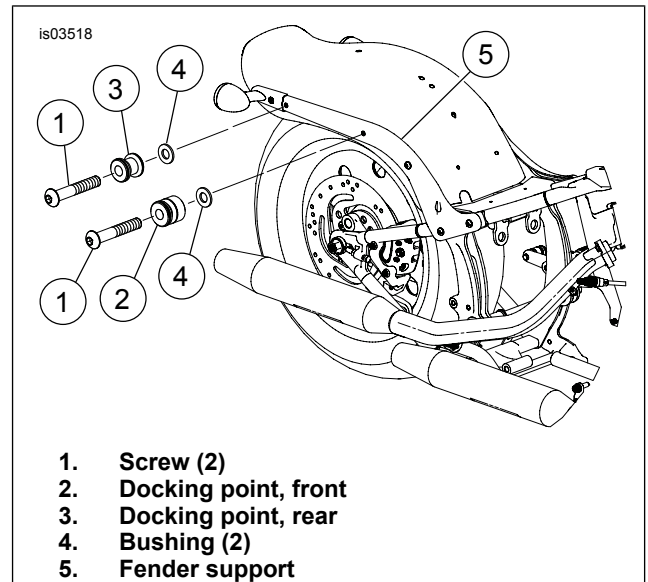

Figure 1. Existing Hardware (With Docking Points)
2. **Docking points already installed:** See Figure 1. Remove screws (1), front docking point (2), rear docking point (3), and bushings (4) from fender support (5). Discard screws but save docking points and bushings for kit installation. **Docking points not previously installed:**